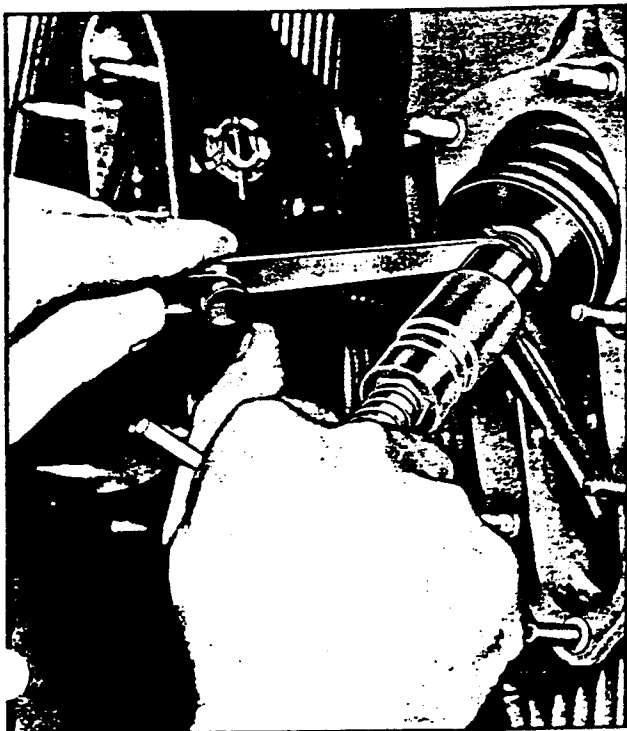

Figure 37. Setting Valve Clearance
4. The valve adjustment is made by inserting the .030 inch feeler of PWA-2803 Gage between the adjusting screw insert and the valve stem. Use a box wrench and a screw driver to set the adjusting screw so that there is a slight drag on the feeler gage, then lock the adjusting screw in this position by tightening the lock nut to a torque of 300 to 350 inch pounds. (See figure 37.)